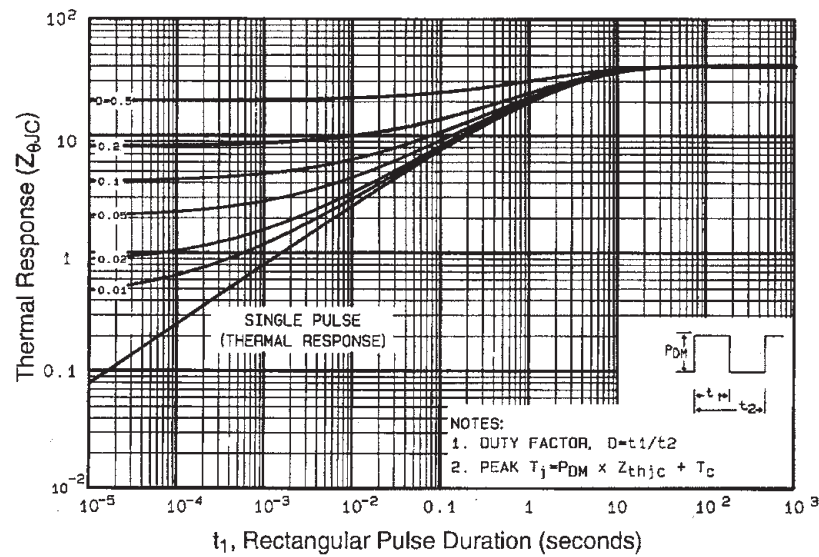

Fig 11. Maximum Effective Transient Thermal Impedance, Junction-to-Case
① Repetitive rating; pulse width limited by max. junction temperature. (See fig. 11)
② $V_{DD} = 25V$, starting $T_J = 25^\circ\text{C}$, $L = 25\text{ mH}$